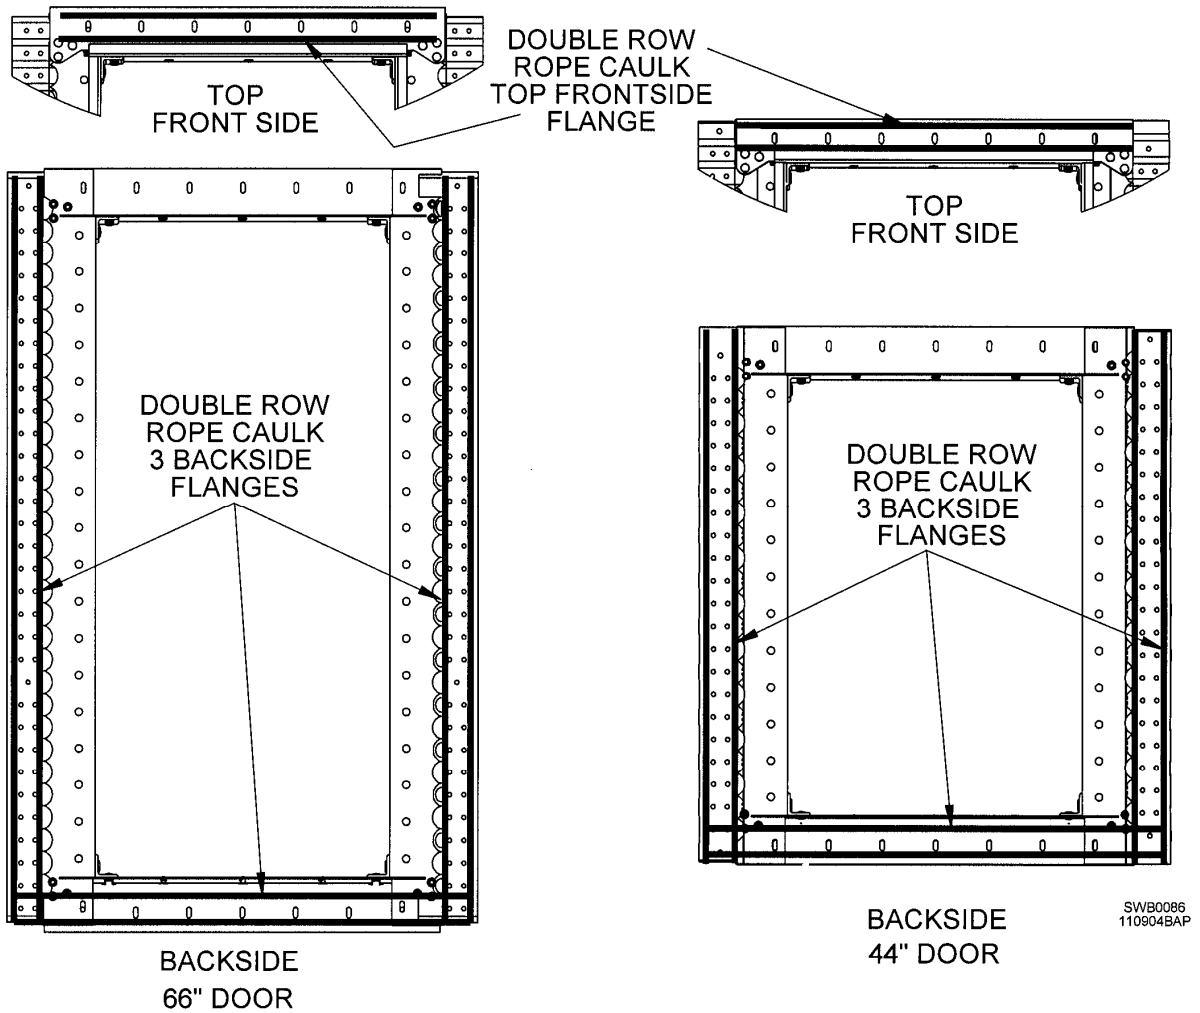

Fig. 1
Top stiffeners, 39” & 83”, have only one set of holes for wind ring brackets, located two-thirds from top of top ring. The 88” stiffeners are punched with two sets of holes so that wind ring brackets can be attached in middle of sidewall ring. Use bottom holes on bins with odd number of rings. Use top holes on bins with even number of sidewall rings. See Fig. 1.
3. Apply double row of rope caulk to frame flanges. Top flange will receive caulk on outside of flange. Side and bottom flanges will receive caulk on inside, or backside, of flange. See Fig. 1.